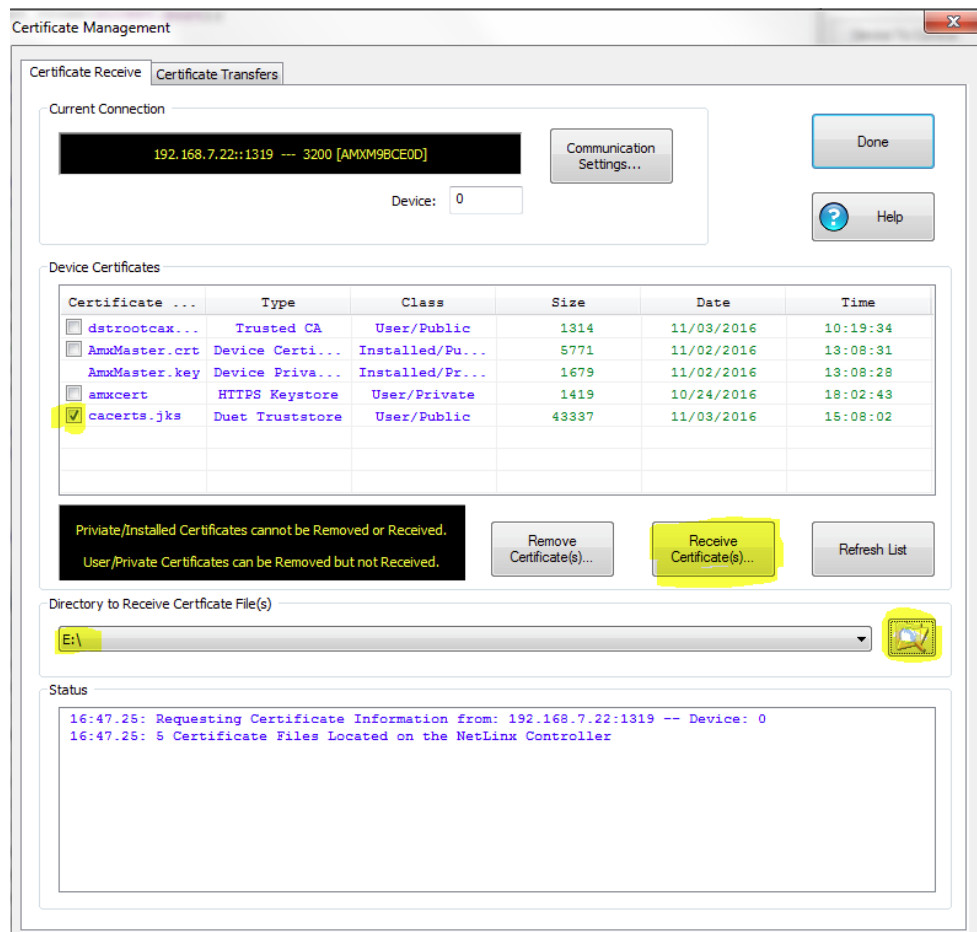

FIG. 474 Certificate Management - Receive tab
2. In the Certificate Receive tab of the Certificate Management tool, select the Duet Truststore certificate file and choose the folder to save the file before clicking **Receive Certificate(s)** (FIG. 474):